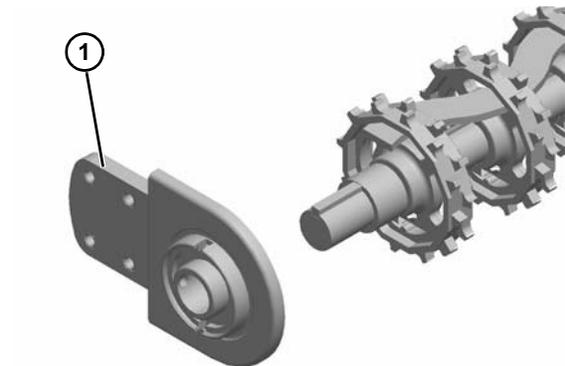

Figure 56
7. Slide the head plate with bearing (Figure 56, item 1) off the shaft.